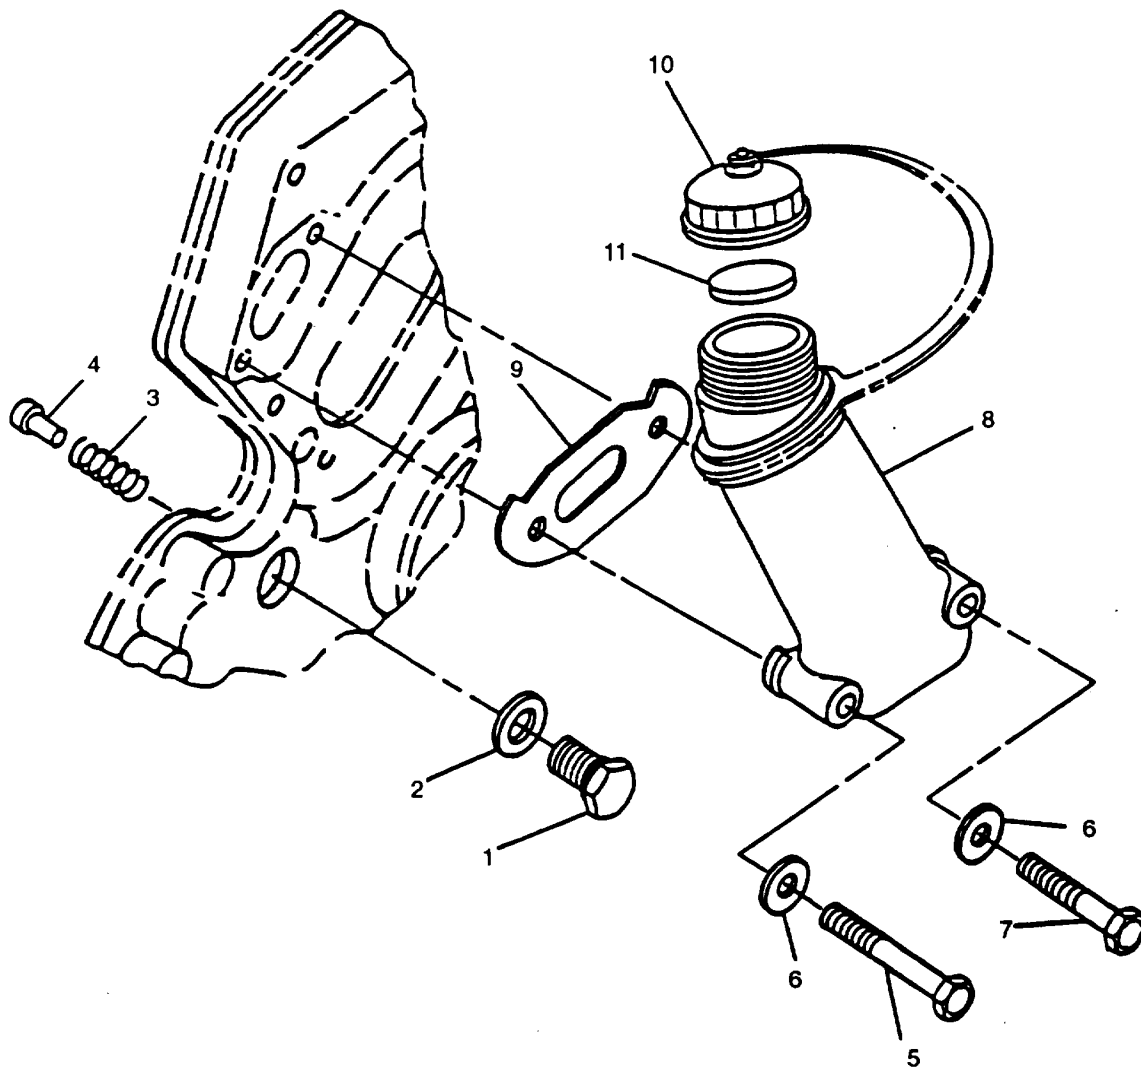

FIGURE 3-50. Oil Pressure Regulating Valve and Oil Filler Assembly
Spring (3, FIGURE 3-50) is under pressure and can cause personal injury when plug (1) is removed.
- c. Remove oil pressure regulating valve plug (1) and washer (2).
- d. Remove oil pressure regulating valve poppet (4) and spring (3).
If engine is being repaired due to low oil pressure, replace spring (3, FIGURE 3-50). If due to high oil pressure, install an additional washer (2).
- b. Install oil pressure regulating valve poppet (4) and spring (3) in engine block.
- c. Install washer (2) and plug (1). Tighten plug to 70 ft- lbs (95 Nm).
- b. Remove two cap screws (5 and 7, FIGURE 3-50) and washers (6) securing filler neck (8) to engine block. Remove filler neck (8) and gasket (9); discard gasket.
- b. Inspect filler cap (10, FIGURE 3-50) and gasket (11) for damage. Replace as necessary.
- b. Position new gasket (9, FIGURE 3-50) and filler neck (8) on engine block and secure with two capscrews (5 and 7) and washers (6).